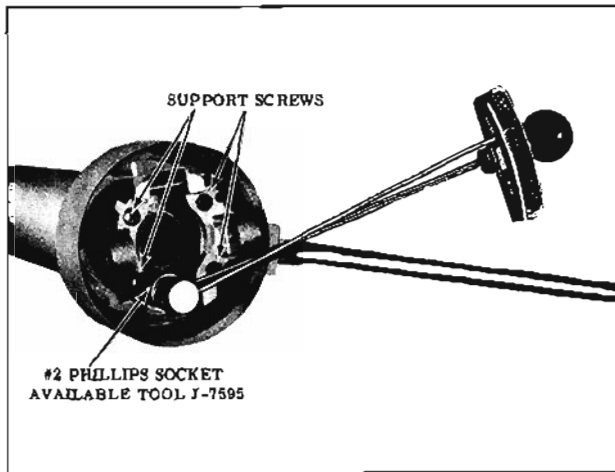

Fig. 8-108 Installing Support Screws
9. Install the support on the upper end of the mast jacket with the long leg aligned with the notch in the low side of the lock plate, then install the four attaching support screws. (Fig. 8-108) Torque the two larger (left) screws first, 20 to 25 ft. lbs., then torque the right two screws 20 to 25 ft. lbs. using a No. 2 Phillips Socket, J-7595.